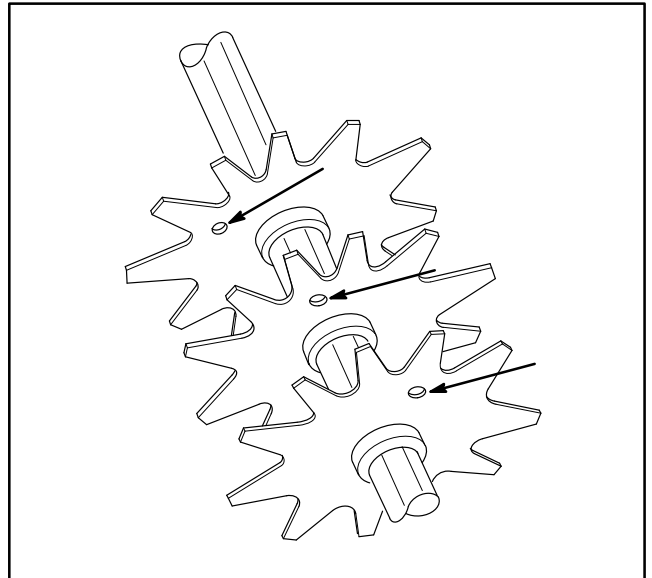

Figure 14
## INSTALLING DETHATCHER BLADES (Fig. 14)
4. Install the next blade counter-clockwise so the index reference hole is not aligned with the first blade hole by one hex of the shaft (Fig. 14). Continue to install spacers and blades in this manner until the full complement of blades has been installed. When properly assembled, the blades will be staggered in such a manner to give a helix appearance.